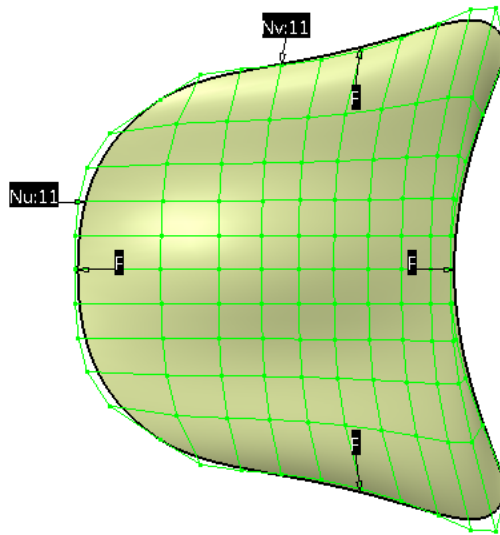

Figure 18-66 The surface after deformation using the mesh
3. Select the **Mesh only** option from the **Filters** area of the **Control Points** dialog box and deform the surface, as shown in Figure 18-66.